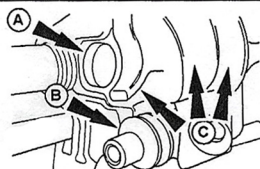

FIGURE 5
- Install the thrust disc and worm gear into the gearbox housing. (Refer to Figure 5).